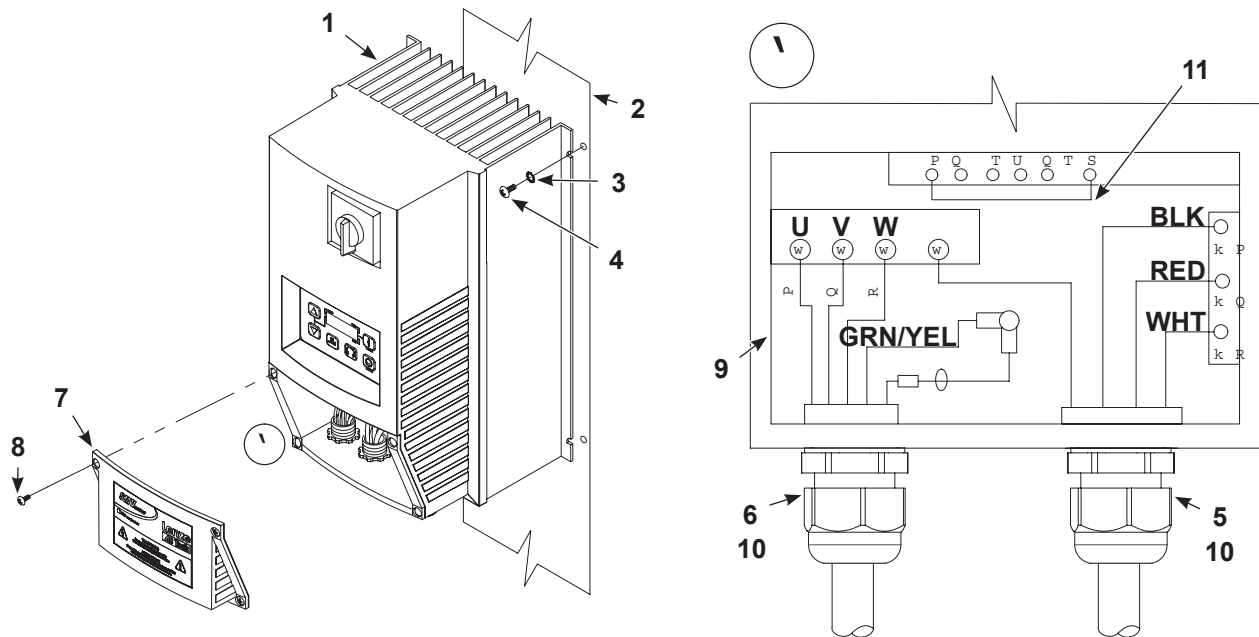

Figure 12 Replacing the VFD
Jumper wire incorrectly installed or not installed at VFD terminals.	Refer to Figure 12, item 11 on page 26. Verify jumper installation, or install jumper as shown.